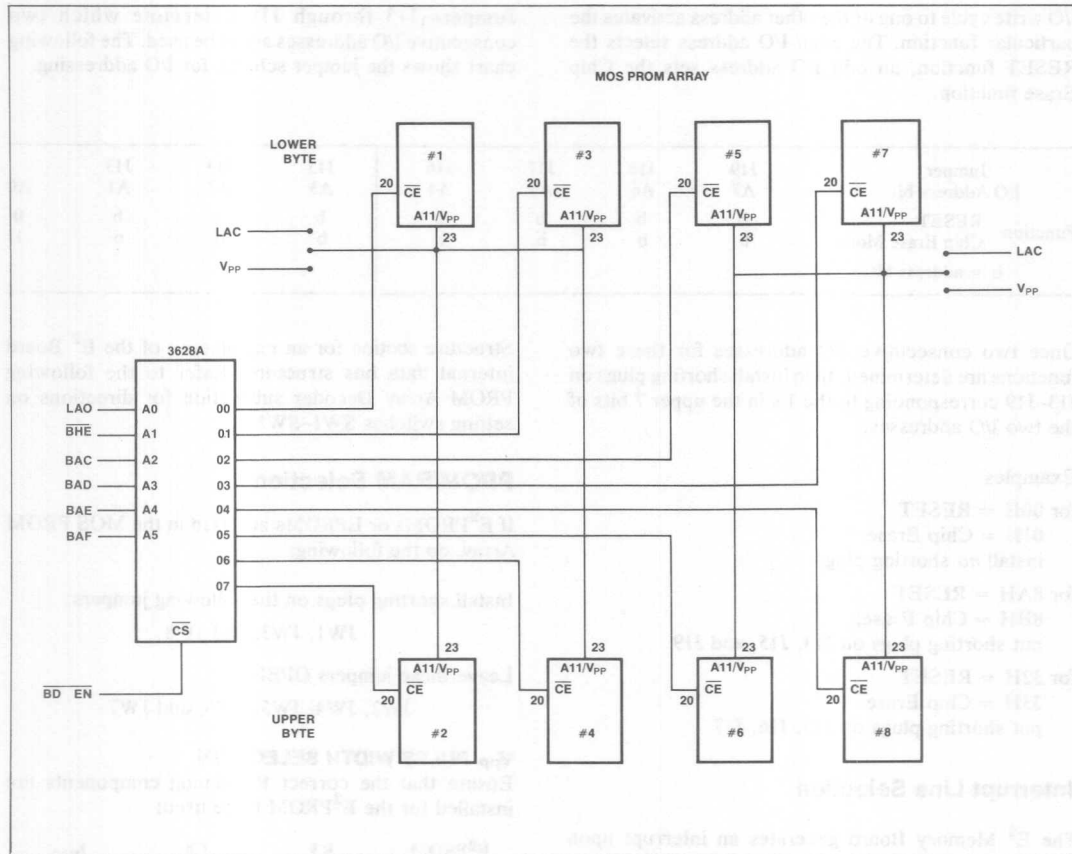

Figure 1. PROM Array Address Configuration
(See Figure 1) The Bipolar PROM is used to select the MOS PROM or MOS PROM pair being addressed. The Bipolar PROM holds decoding algorithms for 2816s, 2815s, 2716s, 2732s, 2732As, and 2764s. The decoder also selects one or two devices at a time depending on whether an 8-bit or a 16-bit data bus is being used. The Dipswitch at the top of the board determines which decoding algorithm is to be used. Use Table 1 to choose the proper switch setting for the MOS PROMs to be loaded in the Array. The correct shorting plugs must also be installed on Jumpers J21–J24—see Table 2.
A few rules must be followed in mixed-density Arrays. (1) Each socket pair (1 and 2, 3 and 4, etc.: see Figure 1) must contain devices of the same density. (2) Each Array half (sockets 1–4 and sockets 5–8) can contain either 4K and 8K pairs, or 2K pairs, but not both.